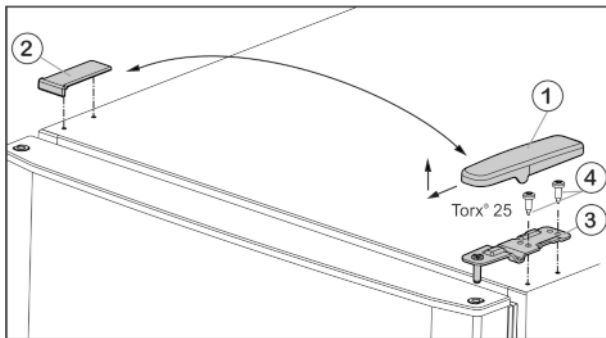
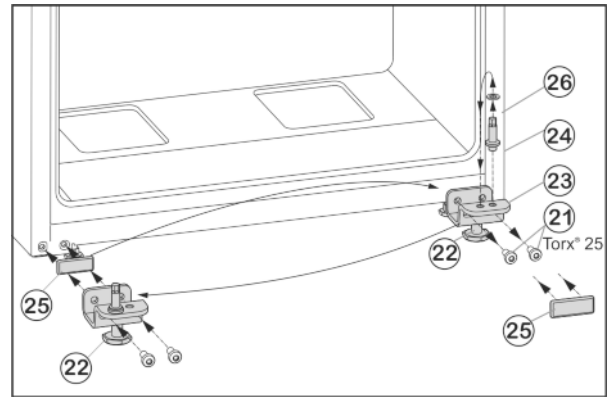

Fig. 4
Fig. 6
- ▶ Pull off the cover Fig. 4 (1) forwards and upwards.
- ▶ Lift off the cover Fig. 4 (2).
- ▶ Unscrew the upper turn hinge Fig. 4 (3) (2x Torx® 25) Fig. 4 (4) and lift it off.
- ▶ Unscrew fastening screws Fig. 6 (21).
- ▶ Remove the lower bearing block Fig. 6 (23), complete with bearing bolt Fig. 6 (24), washer Fig. 6 (26) and adjustable foot Fig. 6 (22).
- ▶ Unscrew the bearing bolt Fig. 6 (24), complete with washer Fig. 6 (26), re-locate it into the mounting hole on the opposite side of the bearing block and tighten again.
- ▶ Carefully remove the cover plate Fig. 6 (25) and re-locate it to the other side.
- ▶ Fasten the lower bearing block Fig. 6 (23), complete with bearing bolt Fig. 6 (24), washer Fig. 6 (26) and adjustable foot Fig. 6 (22) to the new hinge side, with the help of a cordless screwdriver if necessary, and **tighten (with 4 Nm)** once again.
- ▶ Lower the bottom door onto the bearing bolt Fig. 6 (24).
- ▶ Insert the centre bearing block (13) turned through 180° into the lower door and fasten firmly (**with 4 Nm**) to the new hinge side with the fastening screws (2 x Torx® 25).
- ▶ Refit plastic washer (10).
- ▶ Insert the upper turn hinge Fig. 4 (3) in the door on the new hinge side.
- ▶ Screw in the upper bearing block **tightly (with 4 Nm)** (2 x Torx® 25) Fig. 4 (4). Use a cordless screwdriver if necessary.
- ▶ Fit the cover Fig. 4 (1) on the opposite side by sliding it rearwards and latching it into place.
- ▶ Press the cover Fig. 4 (2) on the opposite side down into place until it latches.
- ▶ Unscrew the adjustable foot Fig. 6 (22) on the lower bearing block Fig. 6 (23) until it reaches the floor.